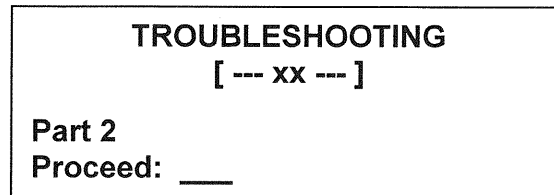

Figure 2
- a. Observe the display on the Nida 130E Test Console and ensure that it looks like the example shown in Figure 2 with your contestant number in place of the [--- xx ---]. Verify that Part 2 and the word Proceed are displayed.